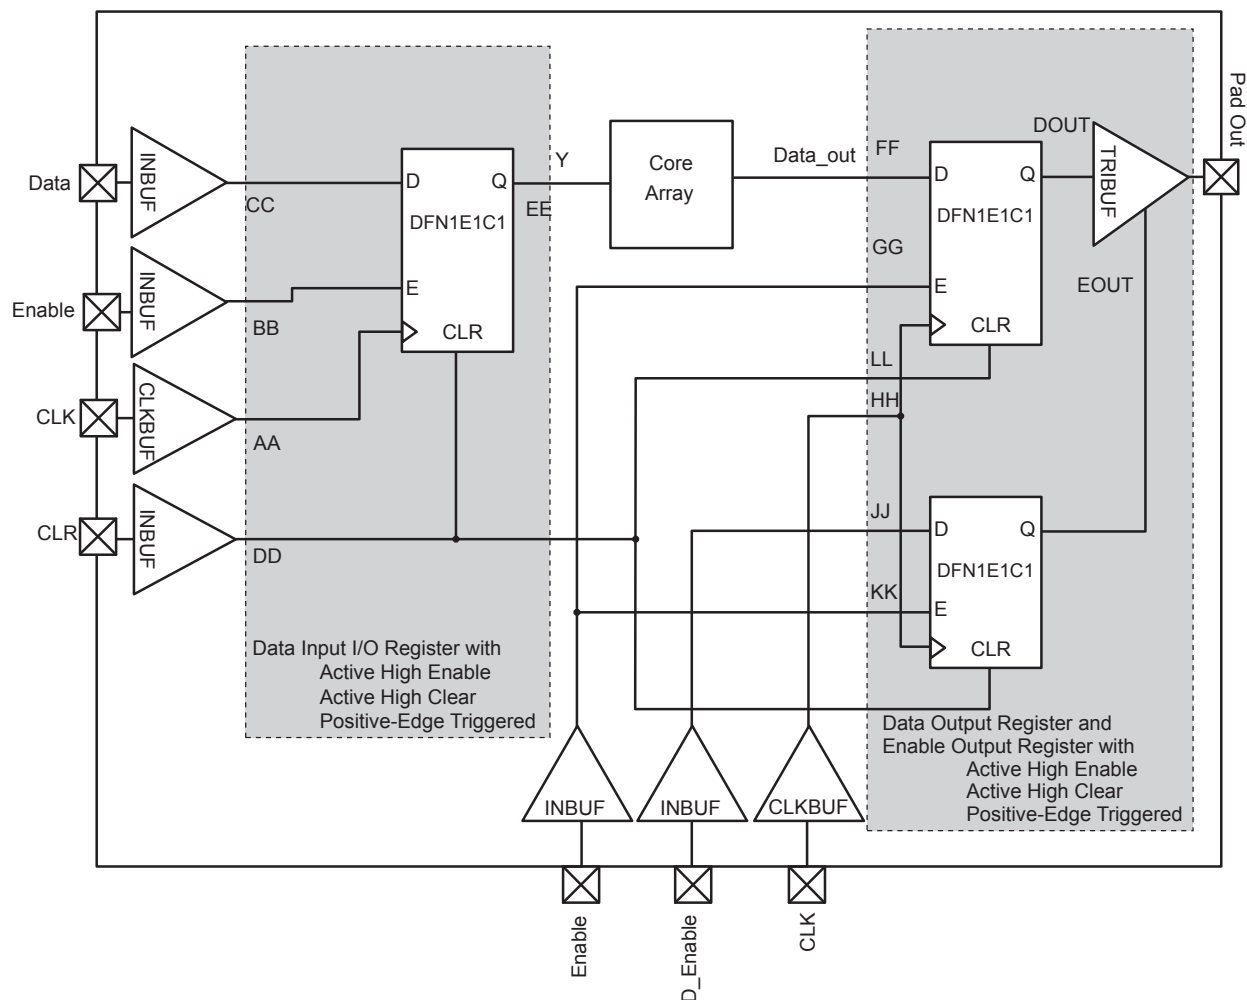

Figure 2-15 • Timing Model of the Registered I/O Buffers with Synchronous Enable and Asynchronous Clear
**Note:** \*See Figure 2-15 on page 2-70 for more information.